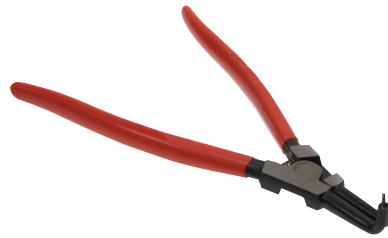

Figure 4-43: Example of suitable pliers
3. Use a suitable pair of pliers to dismount the outer sleeve. For an example of suitable pliers, see **Figure 4-43**.